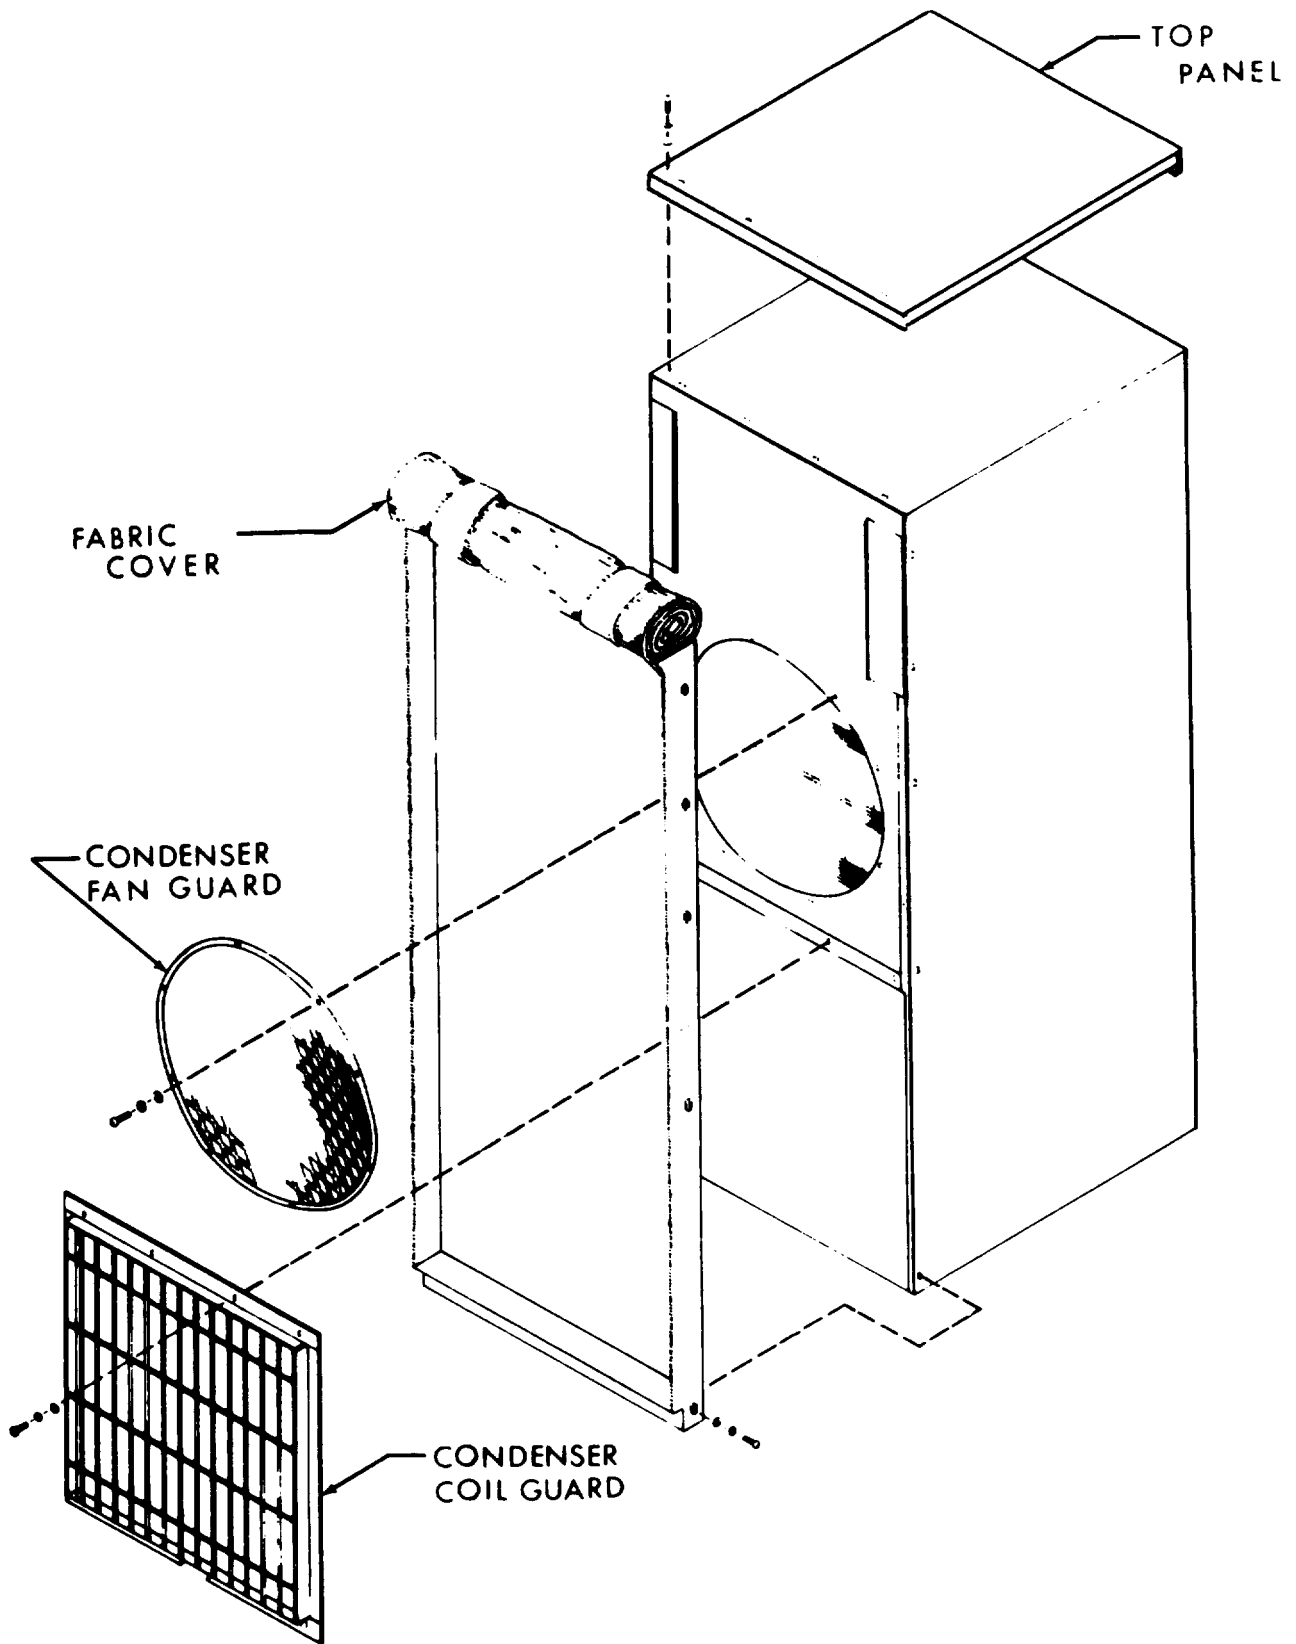

Figure 4-4. Screens, Covers and Guards
**4.7. Fabric Cover (See figure 4-4).**
#### 4.8. Top Panel Assembly (See figure 4-4).
**4.13. Condenser Coil Guard (See figure 4-4).**
#### 4.14. Condenser Fan Guard (See figure 4-4).